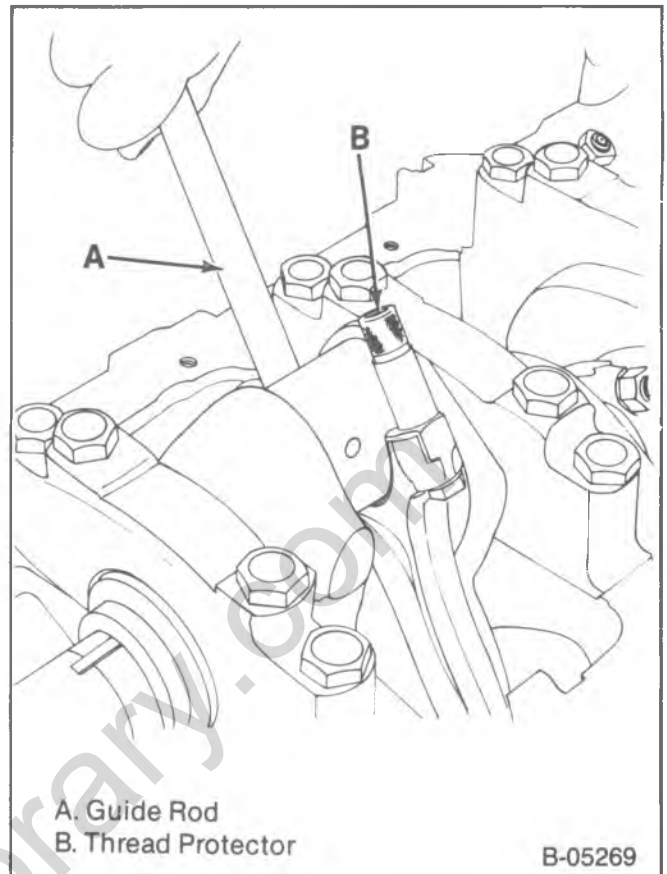
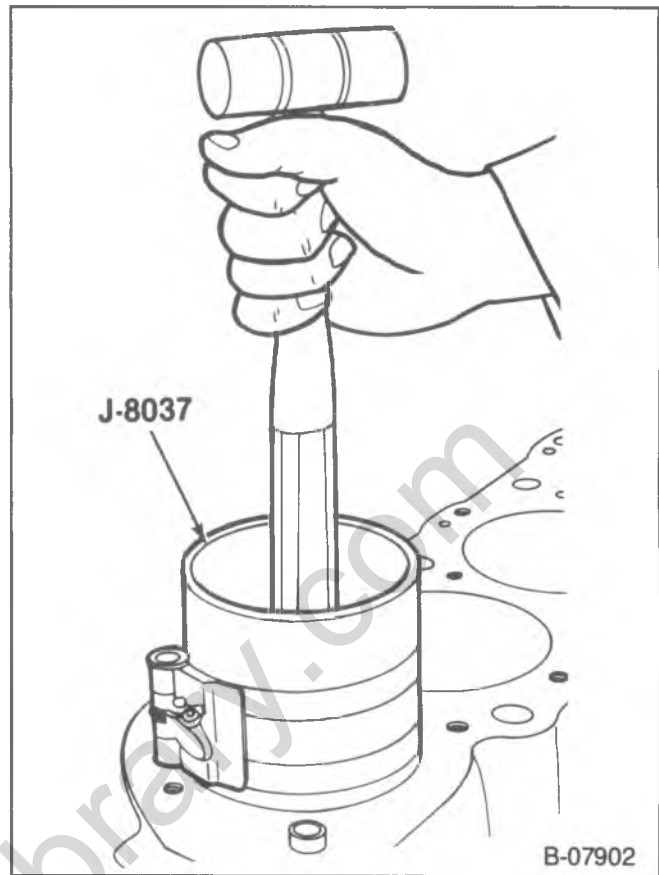

Figure 27—Replacing the Connecting Rod and Piston
Figure 29—Installing the Piston
↔ Remove or Disconnect (Figure 27)
- Attach J-5239 to the connecting rod bolts (figure 27).
↔ Install or Connect (Figures 27 through 31)
- Without disturbing the ring end gap location, install J-8037 over the piston (figure 29).
- Place the piston in its matching bore. Using light blows with a hammer handle, tap the piston down into its bore (figure 29). At the same time, from beneath the vehicle guide the connecting rod to the crankpin with J-5239 (figure 27). Hold the ring compressor against the block until all rings have entered the cylinder bore.